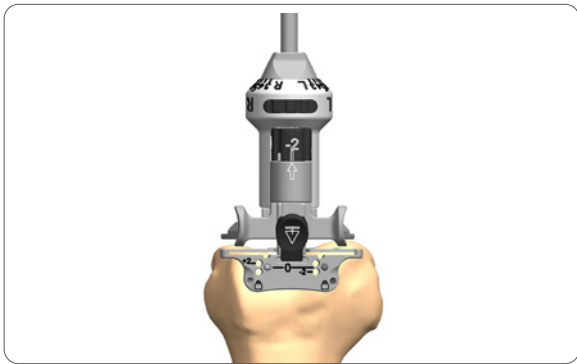

Figure 8
1. With the Adjustable Valgus Bridge dial set to 0mm, using non-headed 65mm pins, pin the distal femoral cutting block to the anterior femur using the holes marked '0'. Once adequate distal femoral resection is noted, a headed or non-headed 65mm pin should be placed in one or both oblique pin holes for additional stability (**Figure 8**).